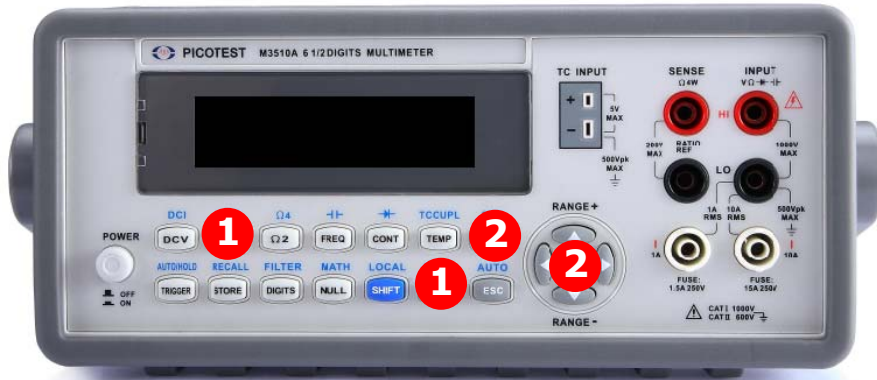

Figure 4-2
1. Press ACV button and then CONFIG button as shown in **Figure 4-2**.